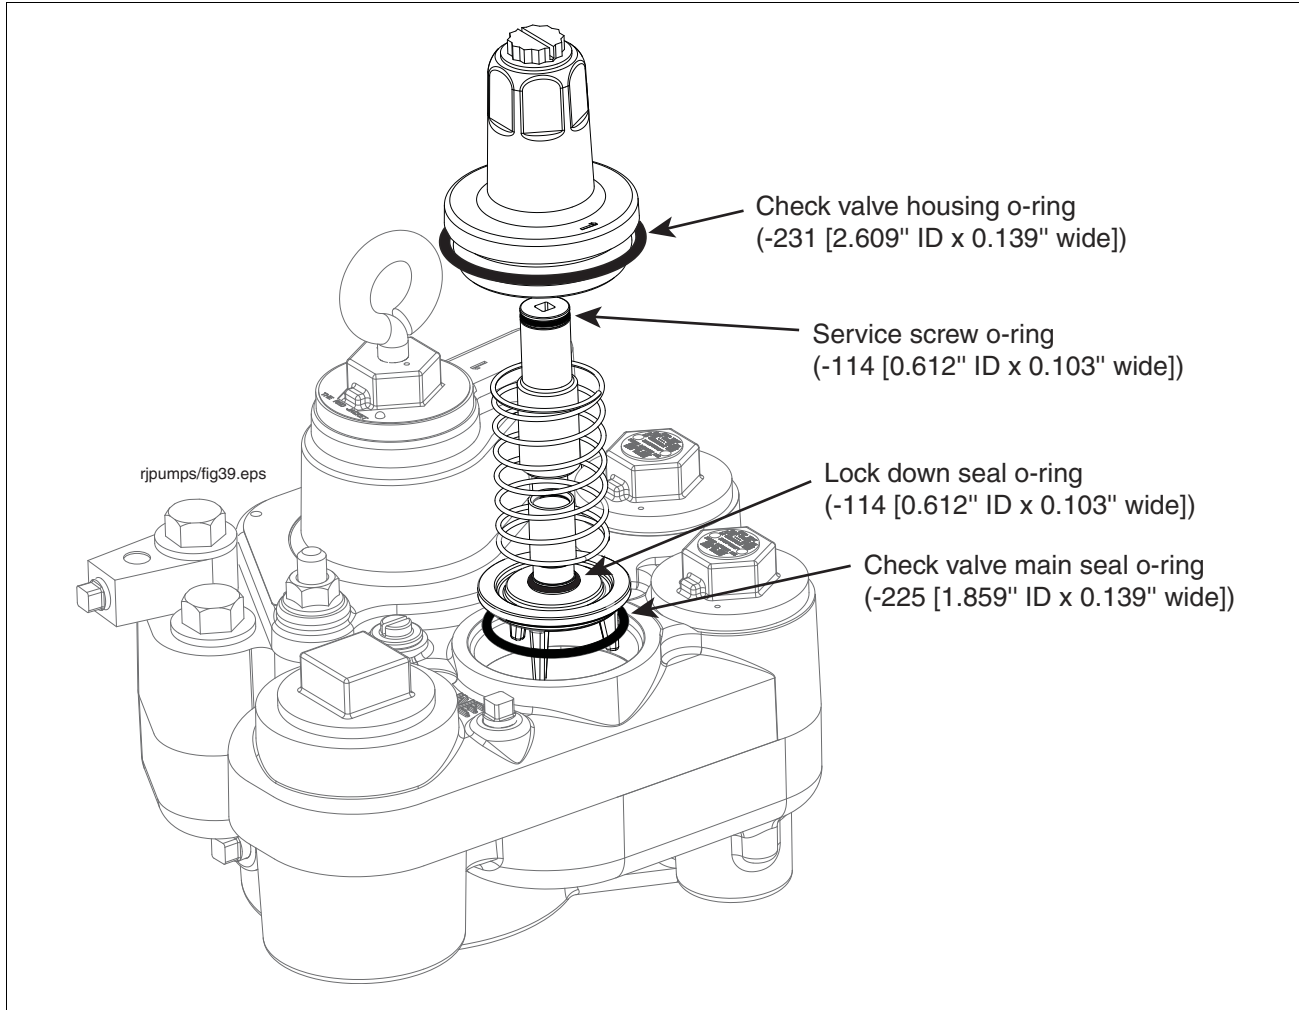

Figure 34. Inserting Check Valve Assembly Into Manifold
6. With its lubricated o-ring in place, insert the check valve onto its seat in the manifold, and place the new spring over the check valve (see Figure 34). Place the check valve housing with o-ring over the spring and check valve and screw it in hand tight. Torque the housing to 40 - 50 ft-lbs (54 - 67 N•m).
8. Open the air purge screw 2 - 3 turns counterclockwise (see Figure 34).